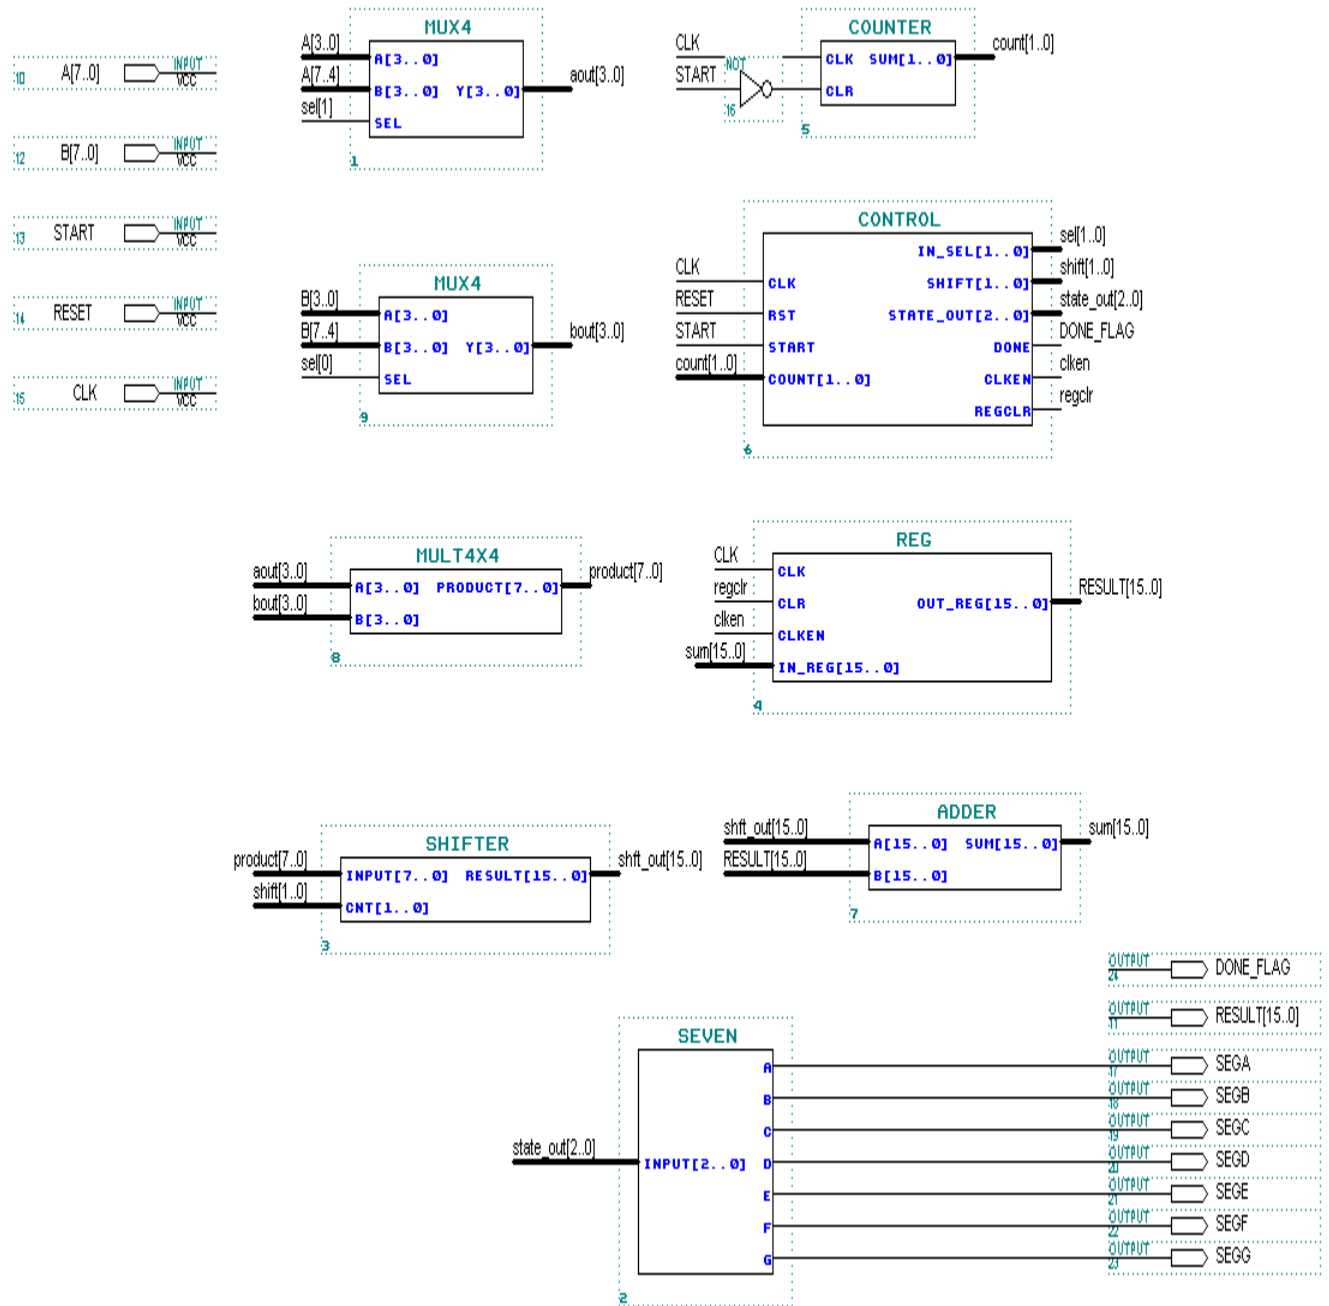

Figure 6-8.
- Remember to use the same input and output port names as shown in Figure 6-8.